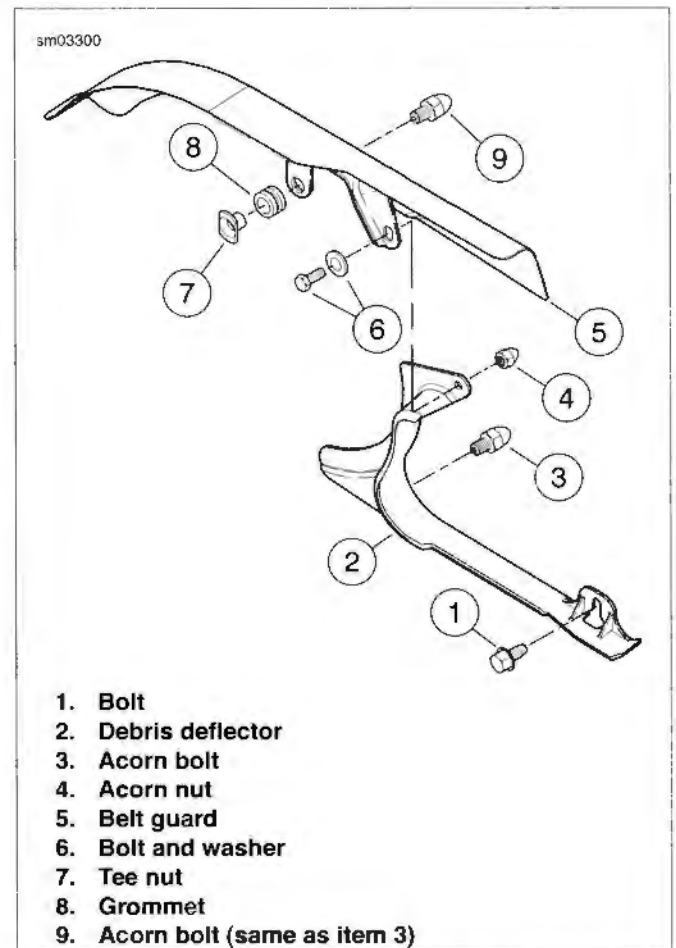

Figure 2-84. Belt Guard/Debris Deflector
2. See Figure 2-84. Remove acorn bolt (9) from tee nut (7).
3. Remove acorn nut (4) to detach belt guard (5).
1. See Figure 2-84. Place the belt guard (5) into position. Tab for bolt and washer (6) must fit inboard of tab on debris deflector (2).
2. Install bolt and washer (6) through belt guard (5), debris deflector (2) and rear fork. Install acorn nut (4) securely.
3. Install acorn bolt (9) onto tee nut (7).